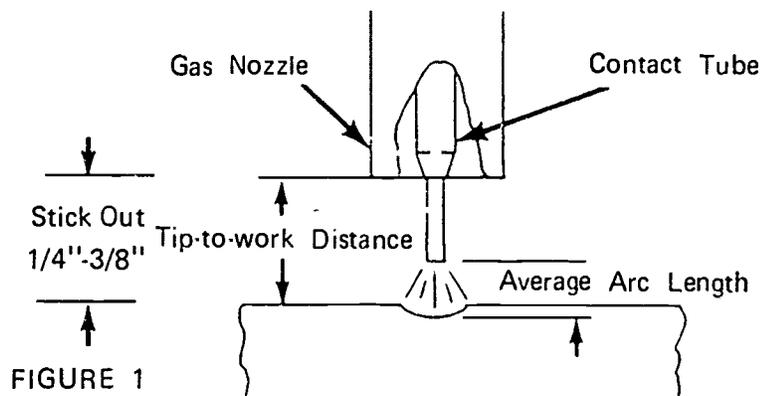

FIGURE 1
- D. Adjust stick out $1/4''$ to $3/8''$ and clean nozzle if needed (Figure 1)